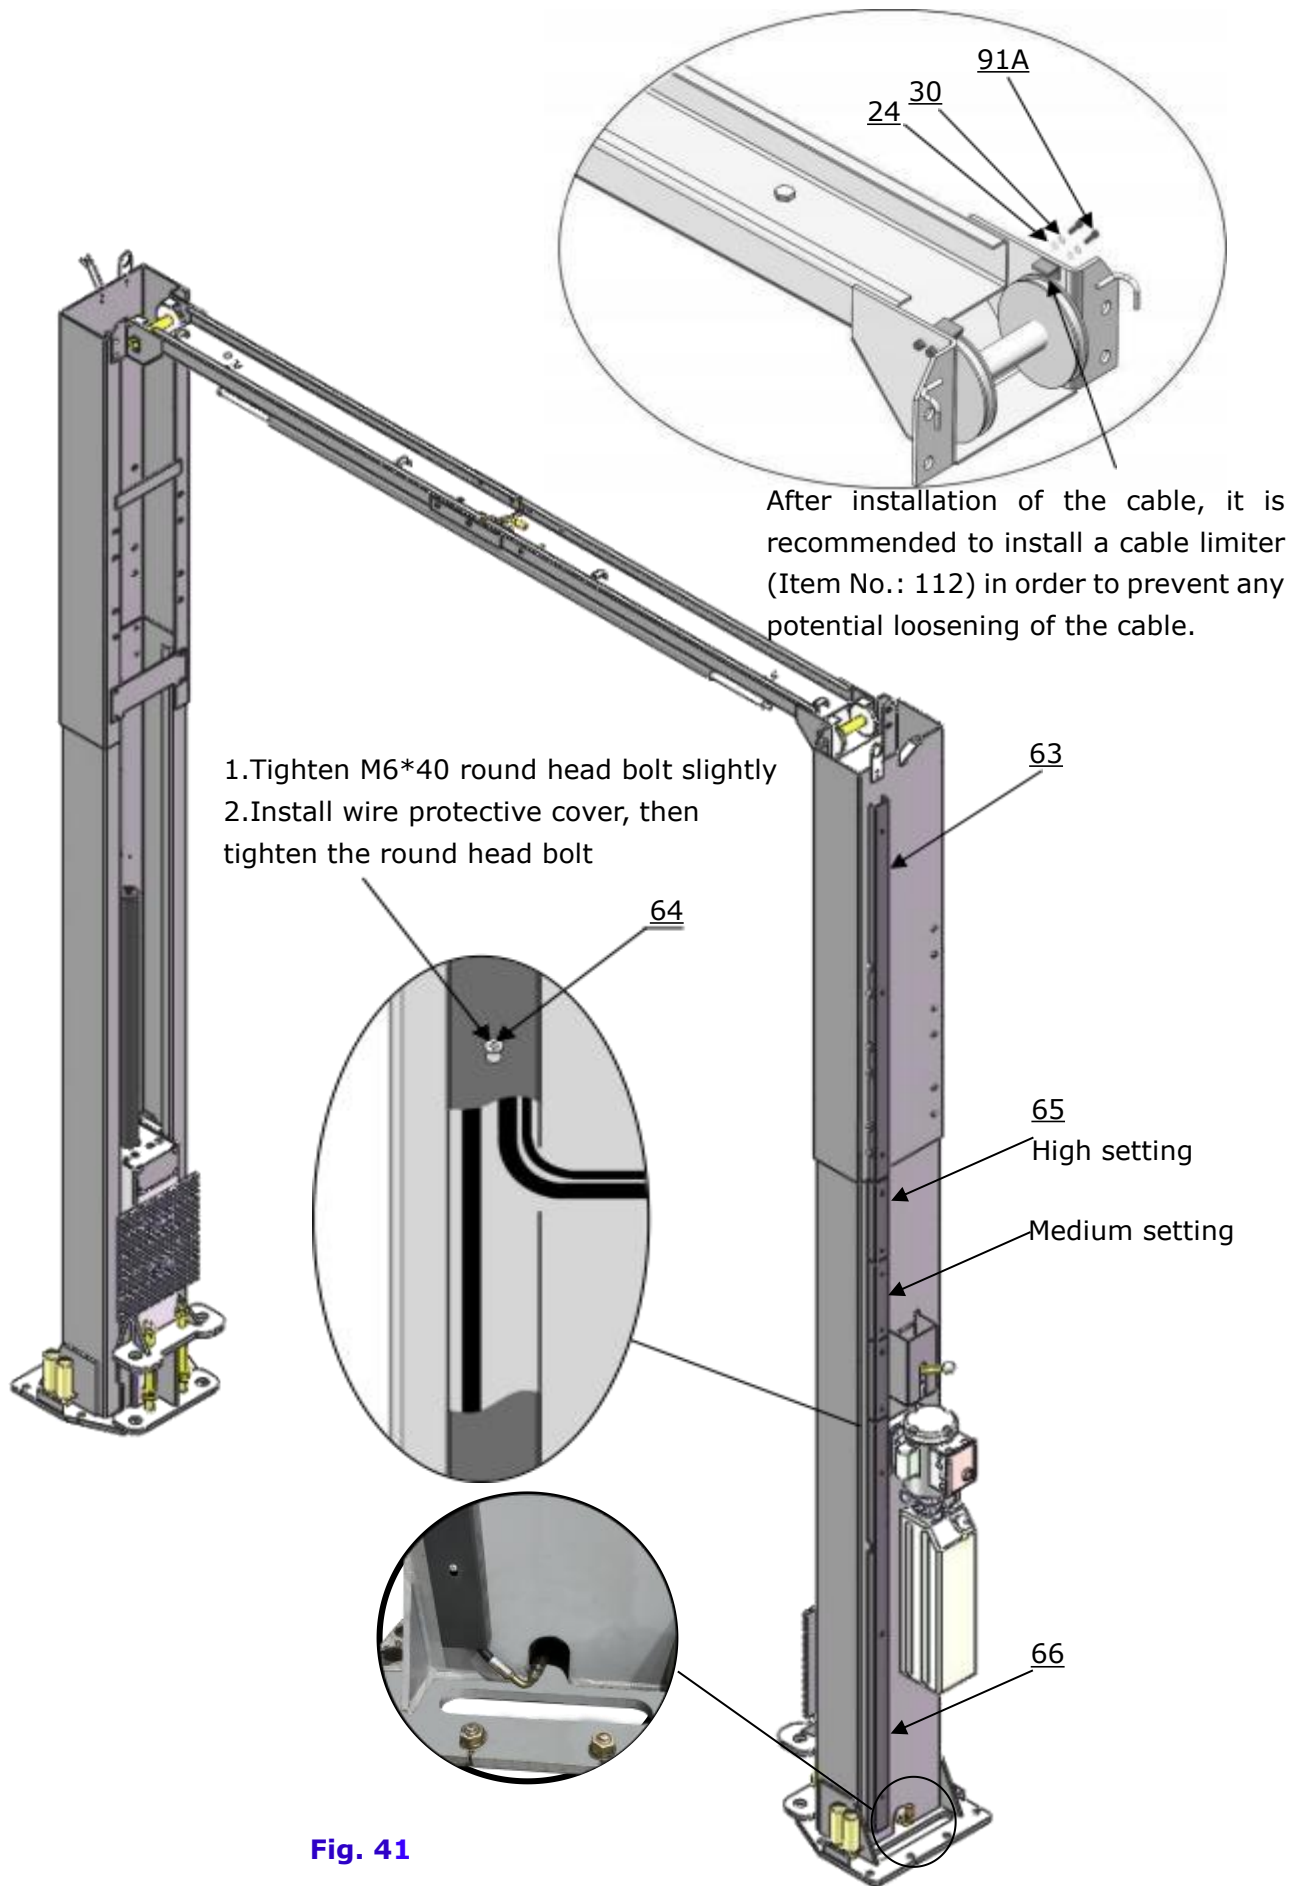

Fig. 41
O. Install wire protective cover and cable limit block.(See Fig. 41)